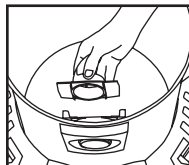

FIGURE 13
22. Remove the inlet deflector from the deflector guide. **NOTE:** Hose must be removed before the inlet deflector can be taken out. **FIGURE 13.**